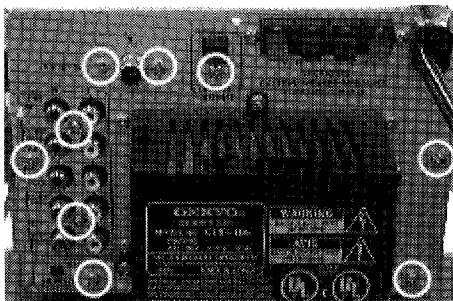

Fig. 2
- Then remove two black Screws(A14) which are fixing Heat Sink. (See Fig. 2, 5.)